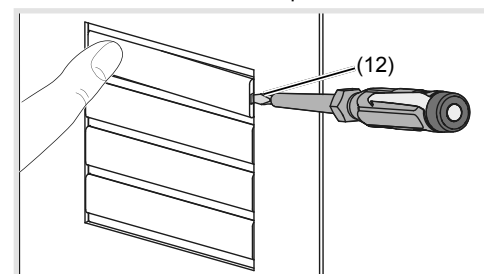

Figure 5: Name plate change
- Keep call push-button pressed on one side. On the opposite side, the lever opening (12) is accessible for a screwdriver.
- Position the screwdriver in the lever opening (12) and release the interlock (Figure 5).